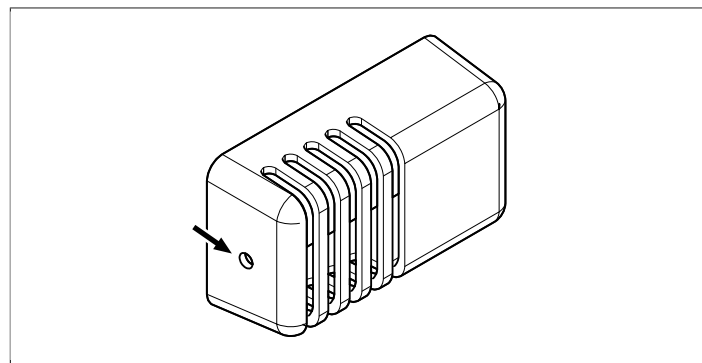

Figure 23: Resetting the sensor temperature cut-out
- The sensor temperature cut-out prevents the sauna woodwork from overheating. If the sensor temperature cut-out is triggered, the electricity supply to the heater will cut off. When the temperature in the sauna cools down, it can be reset. The cause of the overheating must be established before resetting the temperature cut-out. To reset it, press the spring-loaded button with a small implement such as a paper clip (see **Figure 23**, Page 13).